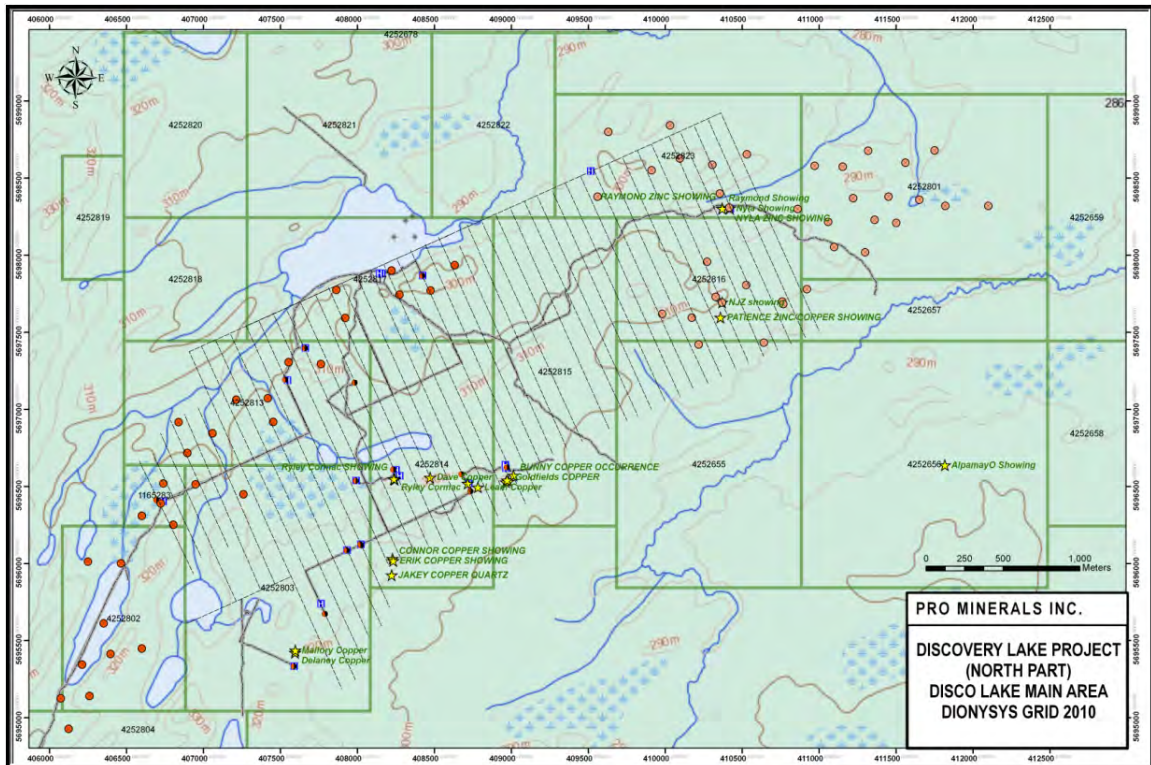

Figure 4: Discovery Lake Grid Map
- FIGURE 4: DISCOVERY LAKE GRID MAP